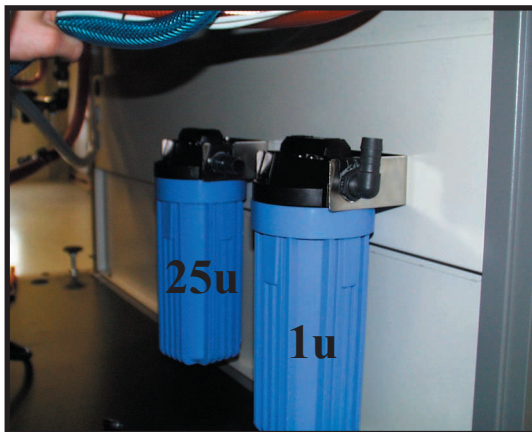

Fig. 7.
6) Install filters in the brackets. Please observe flow direction. Fig. 7.